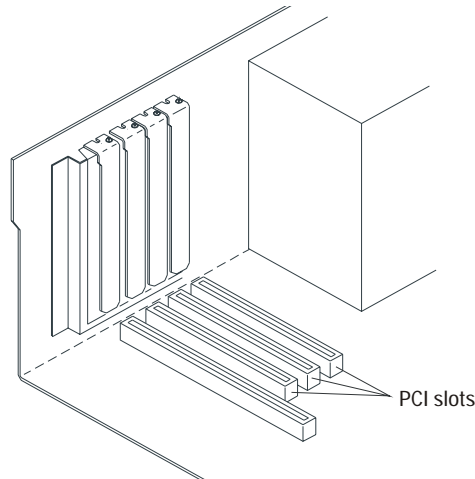

Figure 4-2 Locating a PCI bus Expansion Slot.
2. Locate an unused, unobstructed PCI bus expansion slot (Figure 4-2) that supports bus mastering. (PCI slots are usually white or ivory.) See your computer documentation to determine if the PCI slot supports bus mastering.